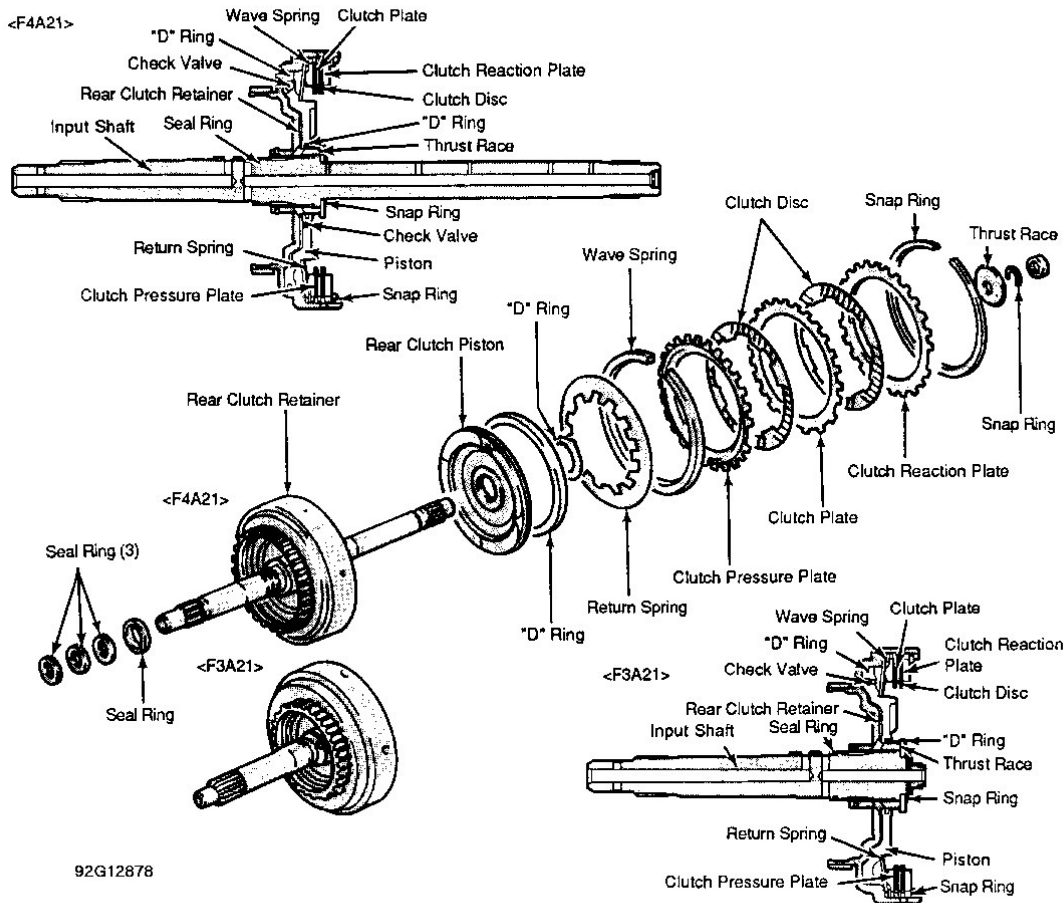

Fig. 26: Exploded View of Rear Clutch Assembly
2. Remove clutch reaction plate, 2 clutch plates, 3 clutch discs and clutch pressure plate from retainer. See **Fig. 26** . Compress return spring and remove wave spring. Remove spring and piston. Remove "D" rings from piston.
2. Install return spring on piston. Compress return spring and install wave spring. Install clutch pressure plate, 3 clutch discs, 2 clutch plates and clutch reaction plate in rear clutch retainer. See **Fig. 26** . Apply ATF to plates and discs and install snap ring.